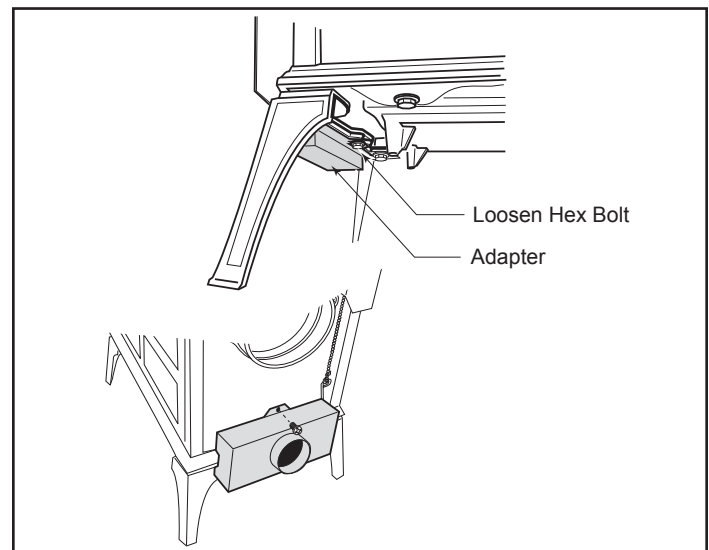

Figure 7.3 - Attach the adapter to the bottom plate.
3. If you are not installing a Rear Heat Shield, use the phillips head screw to secure the upper flange of the Adapter to the stove at the hole from which the screw was removed in Step 1. (Figure 7.3) Otherwise, a heat shield spacer will be used here. (See "Install the Rear Heat Shield", below.)